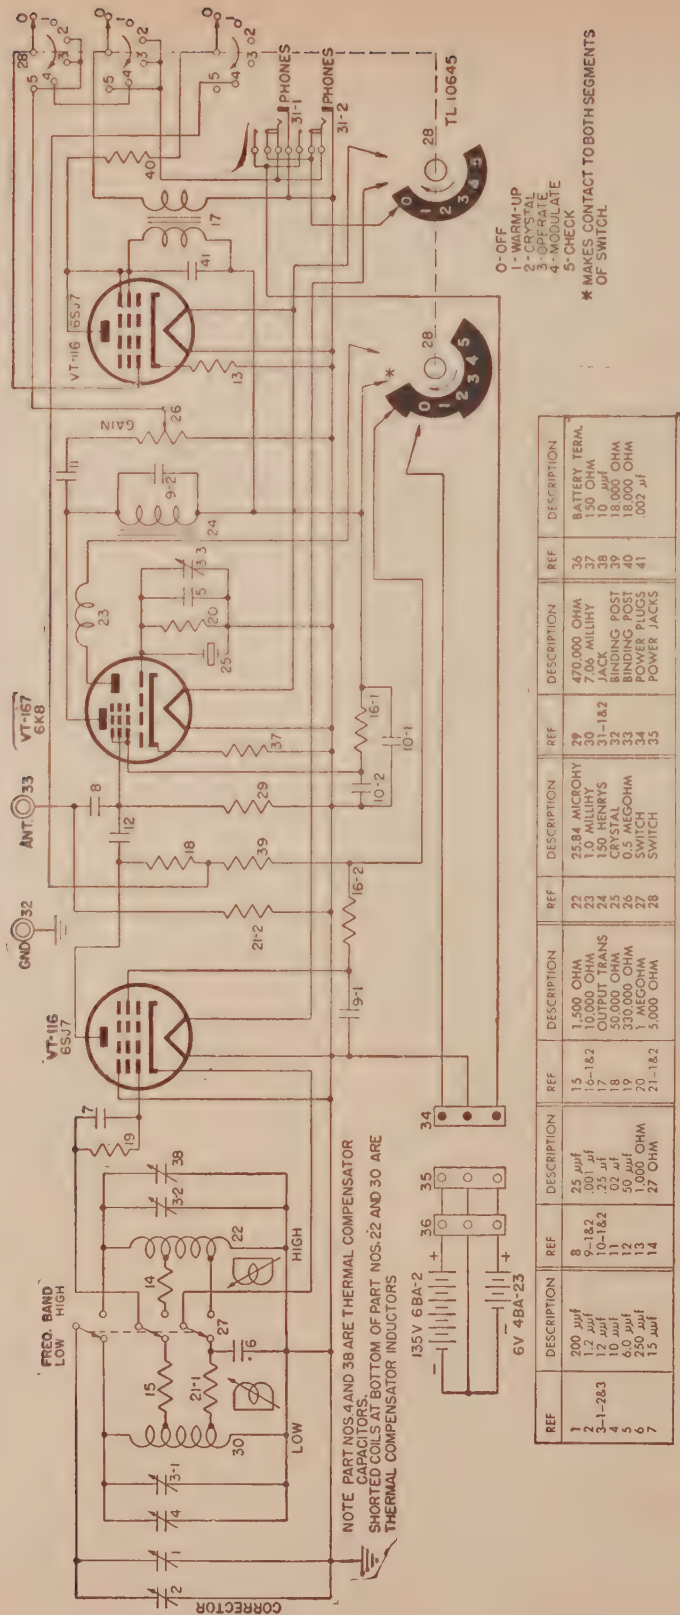

Figure 94. Frequency Meter BC-221-AK, schematic diagram.
The BC-221-AK is very similar to the BC-221-AG described in chapter 9 of this manual with regard to the operation of the variable frequency oscillator, the detector and crystal oscillator, and the audio-amplifier circuits. A six-position operation switch is employed, however, instead of the four-position switch which was used on earlier models made by the same manufacturer. This six-position switch controls two additional circuits, one for the modulator and one for the filament of the variable frequency oscillator tube. At the WARM-UP position of the switch, only the filament of variable frequency oscillator Tube VT-116 (6SJ7) draws current. In the MODULATE position, the circuit of the audio-amplifier stage is changed to that of an audio oscillator which is coupled to the plate circuit of the variable frequency oscillator so that modulation of the r-f output will take place. (See fig. 94.)
e. OSCILLATOR FUNCTION. (1) The variable frequency oscillator circuit is in operation at the CHECK, OPERATE, and MODULATE positions of the operation switch 28. (See fig. 94).
(2) At the CHECK position, the output of oscillator Tube VT-116 (6SJ7) is applied to one of the grids of detector-converter Tube VT-167 (6K8) where it is mixed with the output frequency of the crystal circuit. The result is a frequency equal to the difference of the two, and is used to adjust the frequency of the oscillator by means of the CORRECTOR control.
(3) At the OPERATE position, the variable frequency oscillator is in operation while the crystal oscillator is not. If the antenna is in position, the frequency meter may be used to receive or send any frequency in its range, that is, it may be used as a radio receiver or transmitter.
(4) At the MODULATE position, the variable frequency oscillator is in operation, while the audio amplifier-modulator circuit is changed to operate as an audio-frequency oscillator and modulator in order to modulate the variable-frequency oscillator at a frequency of approximately 375 cycles. If the antenna is in position, the frequency meter may be used to send any frequency in its range, modulated at a frequency of 375 cycles, but it cannot be used as a receiver since the audio-frequency amplifier tube has
297. Power Supply Circuit (fig. 94)